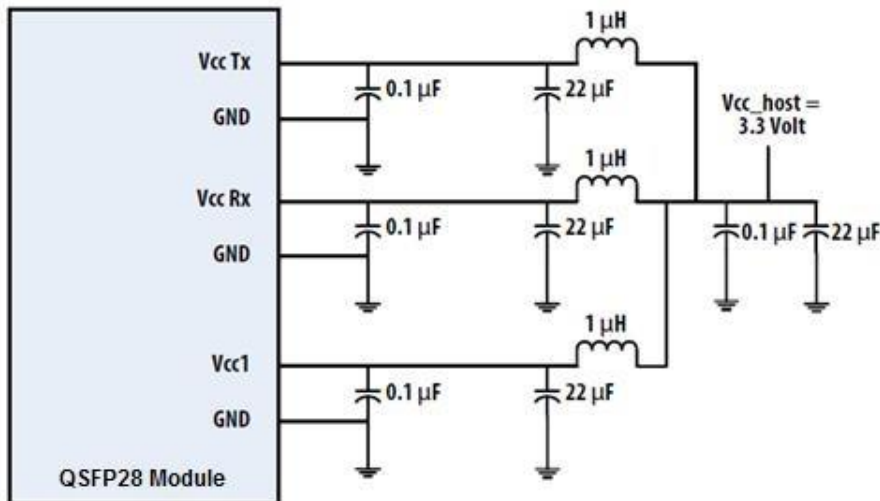

Figure 3. Recommended Power Supply Filter
2. VccRx, Vcc1 and VccTx are the receiving and transmission power suppliers and shall be applied concurrently. Recommended host board power supply filtering is shown in Figure 3